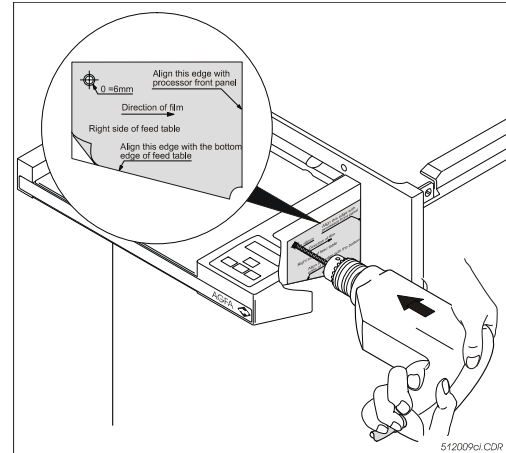

Figure 5: Right drilling template on the film feed table
1. Attach the enclosed right drilling template (see figure 5).